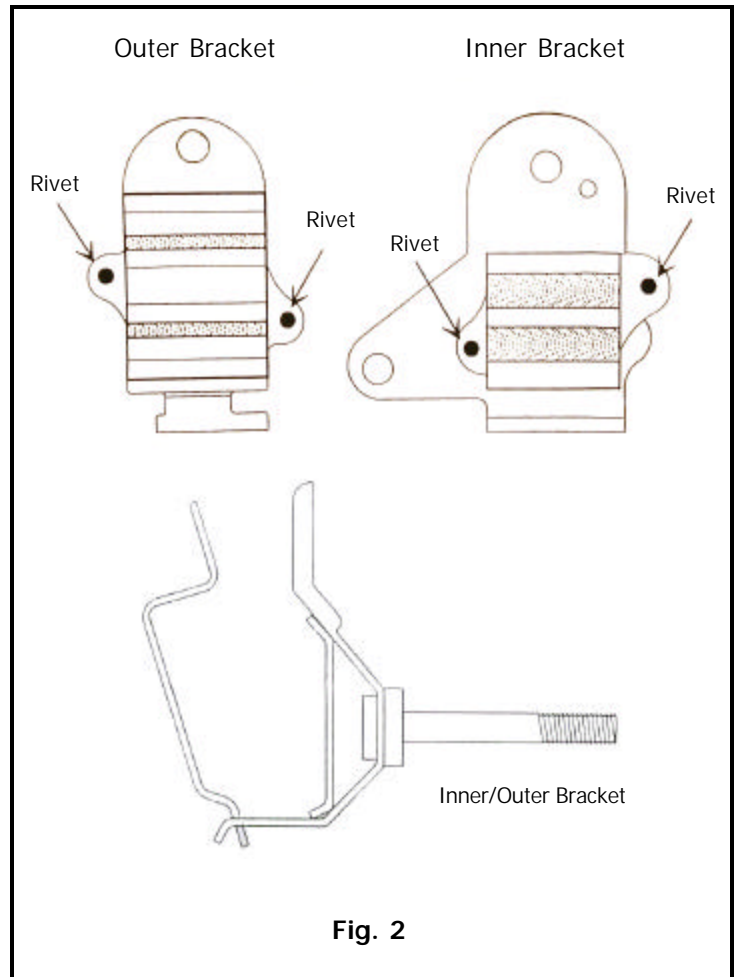

Fig. 2
6. Drill or grind off rivet heads (Figure 2) and disassemble bracket. Remove O.E.M. bushing from bracket assembly.